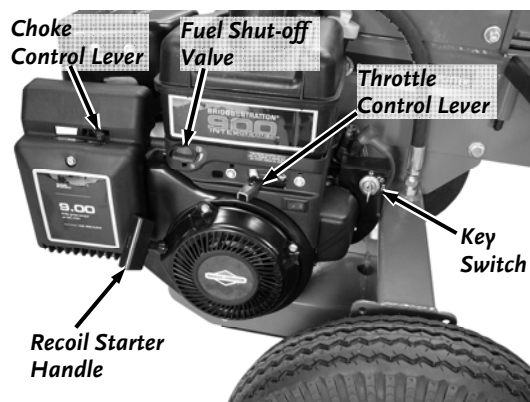

Figure 27
2. Make sure the Fuel Shut-Off Valve is in the “ON” position (**Figure 27**).
2. Manual Start: Turn the Ignition Switch to the “Off” position (**Figure 27**).